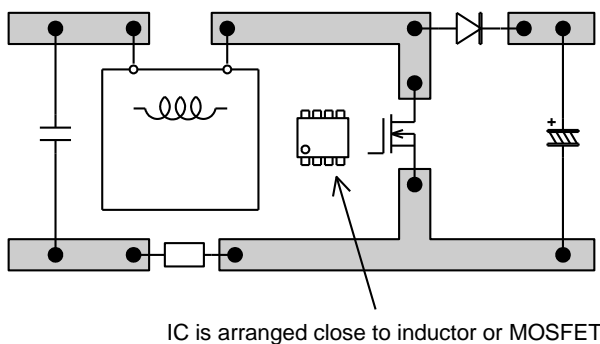

Fig.34 Example of inadvisable arrangement (2)
- IC is arranged close to inductor, MOSFET or diode (Fig. 34)